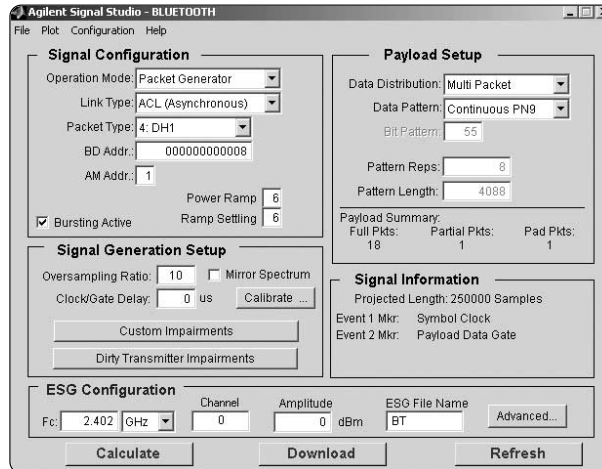

Figure 43. Signal Studio Configured to create a DH1 multi packet sequence with continuous PN9 data spread over the user payload portion of the sequence.
3. Use Signal Studio to configure a DH1 multi packet sequence that contains continuous PN9 data distributed over the user payload portion of the packet sequence, Figure 43. Do not add impairments to the signal when performing the initial calibration. Once configured, select the **Calculate** button.